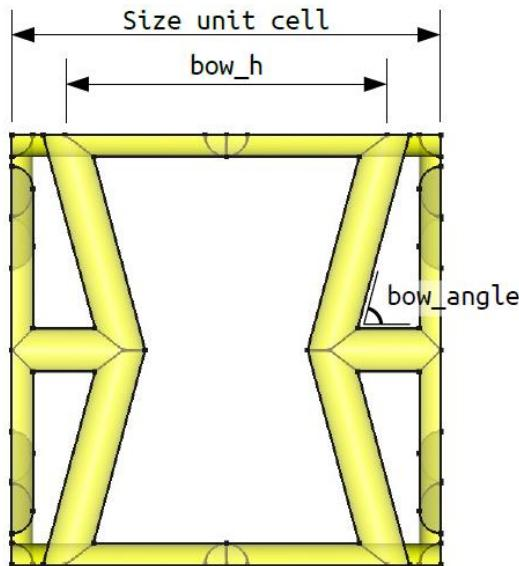

Figure 2: Geo 8 - Auxetic bow-tie.
1. Geo 8: Auxetic bow-tie, see Figure 2.
- bow_h_min =0.5: minimum bow of cell 8 with respect to cell length, see Figure 2
- `bow_h_max = 0.8`: maximum bow of cell 8 with respect to cell length, see Figure 2
- `bow_angle_min=65`: minimum bow angle of cell 8, automatically corrected from `bow_h` if too low, see Figure 2
- `bow_angle_max=85`: maximum bow angle of cell 8, should be lower than 90, see Figure 2